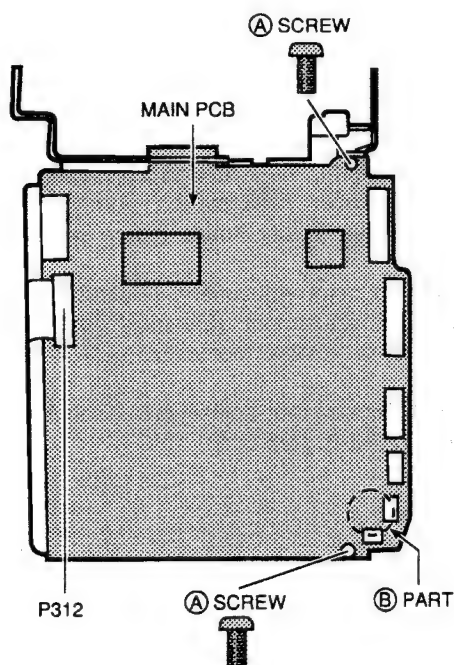

Fig. 3-10
3. Remove the two ③ screws and lift up the ② part to disconnect the connector between the PRE AMP PCB and MAIN PCB as shown in Fig. 3-10.